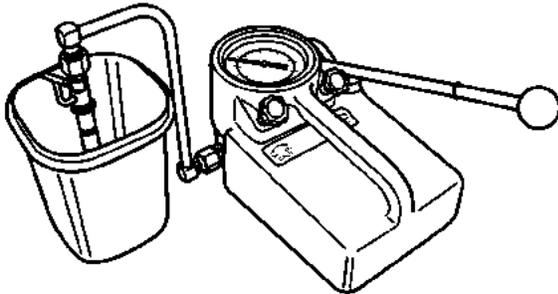

Figure 6-83
4. Pump the operating lever of the tester slowly, observing the pressure reading at the point where the fuel injector begins spraying fuel (Figure 6-83).